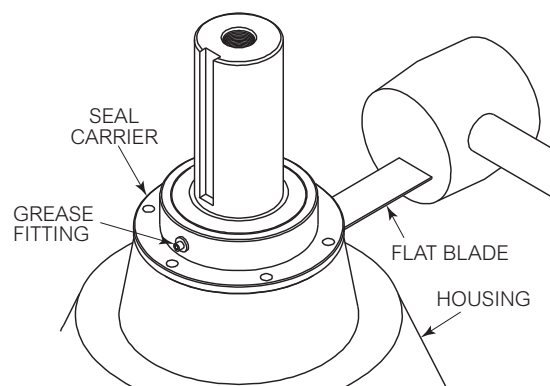

Figure 6.2.1 Separation of Seal Carrier from Hub
4. Using a flat blade and a hammer, break the seal between the seal carrier assembly and the input or output housing; reference Figure 6.2.1.